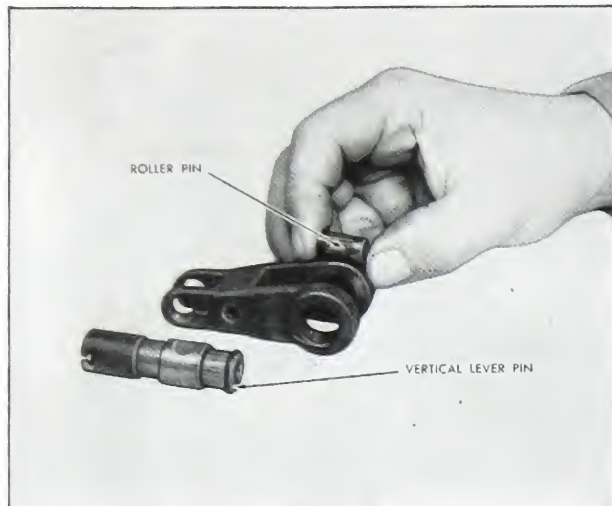

Fig. 5-42. Worn pins
4. Inspect the vertical lever, pin roller and roller pin. If they are worn, replace them. If parts are worn or pitted, poor governor action will result. Replace needle bearings if lever pin and roller is worn as shown in Fig. 5-42.